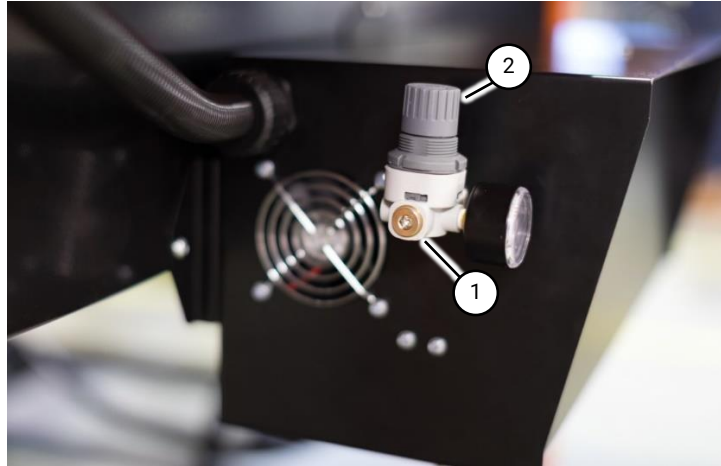

Fig 25 Soft Sense pressure regulator
1. Remove the dust cap (Fig 25 (1)) from the pressure regulator on the control box.
- 2.1 Pull up on the adjustable knob (Fig 25 (2)).